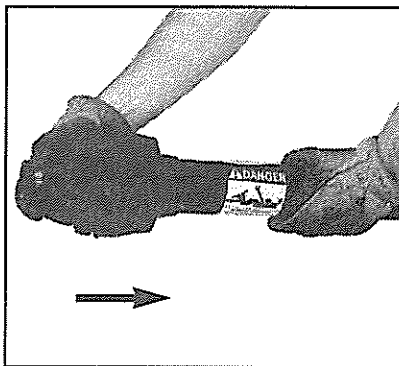

FIG. 6 - RETRACT RING
**STEP 9:** Make sure the tractor engine is shut off, then connect the driveline to the tractor PTO. The driveline locks on with a retractable retaining ring coupling device; slide the ring back for installation. (Refer Figure 6.)